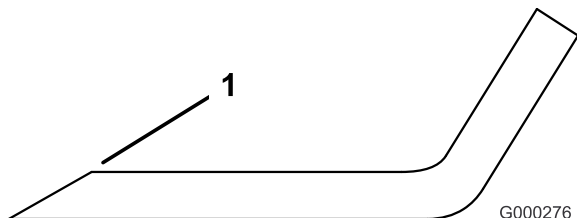

Figure 78
1. Use a file to sharpen the cutting edge at both ends of the blade (Figure 78).